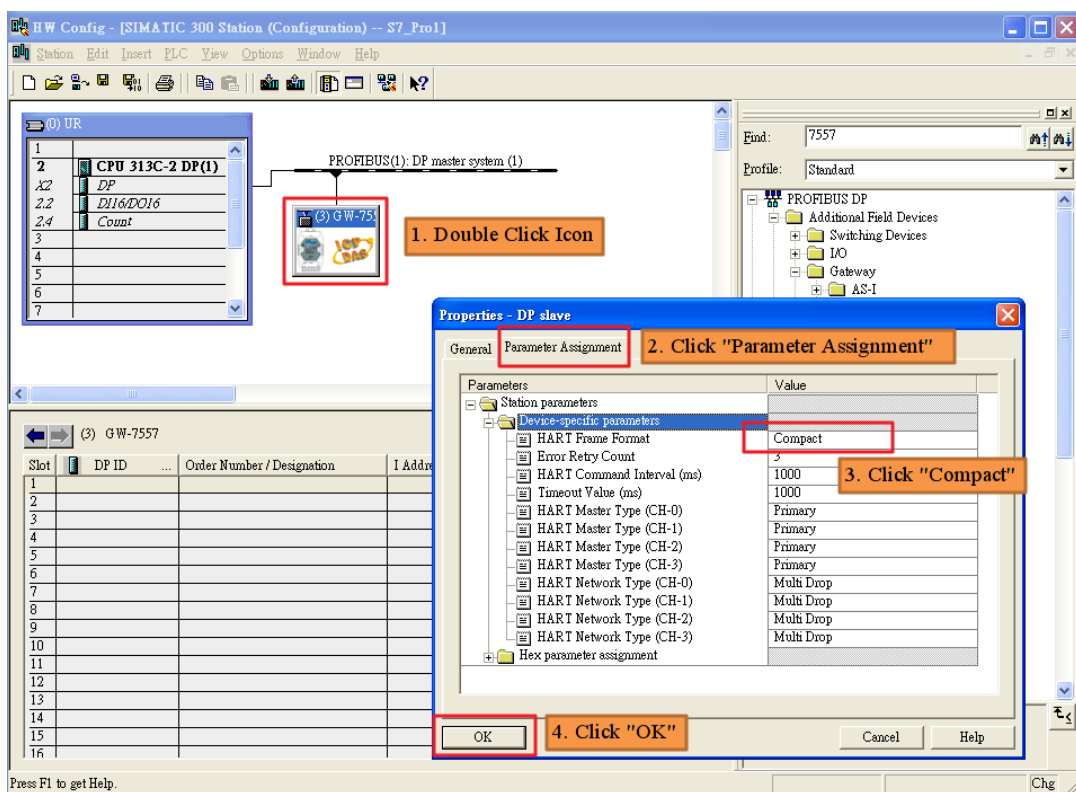

Figure 34 Parameter settings of GW-7557
- Step 3: Set the parameters of the GW-7557. We just need to change “HART Frame Format” to Compact and the default setting is being used in the other parameters for this example. Please refer to section 4.3 the Configuration of the common parameters. The users can set parameters as shown in the below (*Figure 34*).